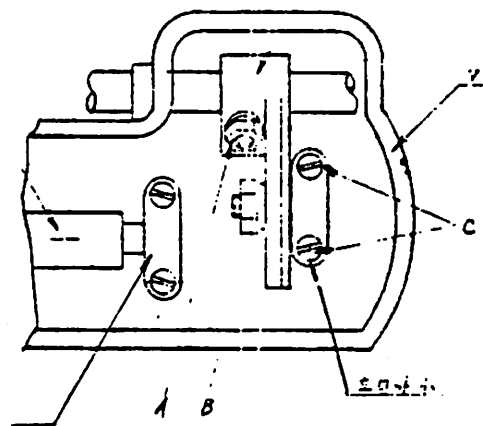

Fig 26
2. And, loosen the connecting ball joint nut B in Fig. 26.
3. The working will be lesser if the connecting ball joint C in Fig. 26 is turned to counterclockwise, and turned to clockwise, the working will be more.